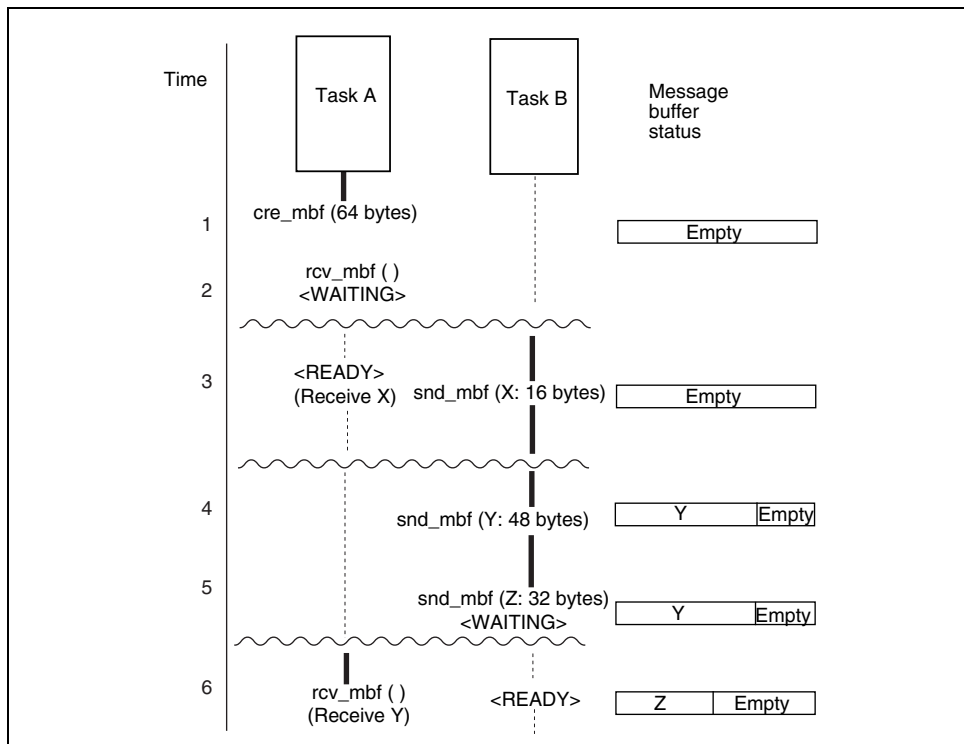

Figure 2.10 Example of Using Message Buffer
Message buffers can also be created by the configurator. Figure 2.10 shows an example of using message buffer.
4. Task B sends a 48-byte message Y by issuing `snd_mbf`. At this time, since there are no tasks waiting for a message, message Y is copied to the message buffer. In this case, the kernel uses 4-byte message buffer area to copy message Y to the message buffer, however this is not indicated in figure 2.10.